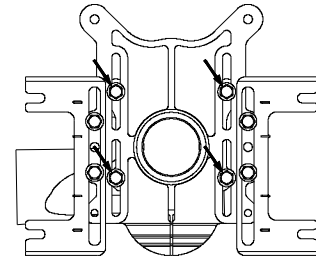

Fig. 3
3. Remove the faceplate/feet from trim kit box and align the faceplate slots with the gasket and fitting holes. Using four ½" bolts from the Fitting & Faceplate hardware bag, secure the bolts with a ratcheting wrench (25-35 lb-ft of torque). See Fig. 3